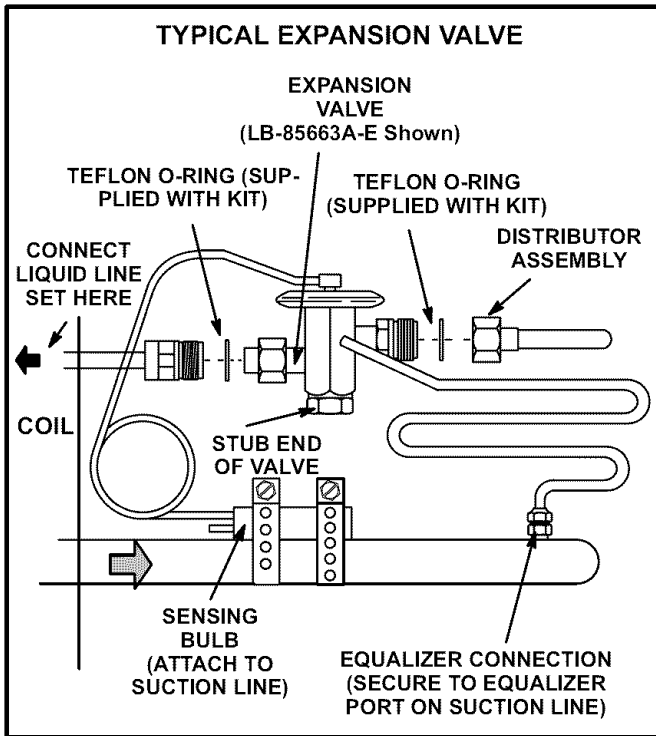

FIGURE 3
- 5 - Apply a small amount of refrigerant oil to the O-ring (provided in the bag assembly) and install it on the liquid line orifice housing. Insert the stubbed end of the expansion valve into the liquid line orifice housing and tighten the expansion valve seal nut. See figure 3.
- 6 - Apply a small amount of refrigerant on the provided Teflon washer provided with the expansion valve kit. Install the washer on the threaded side of the expansion valve. Tighten the liquid line seal nut on the threads of the expansion valve. See figure 3.